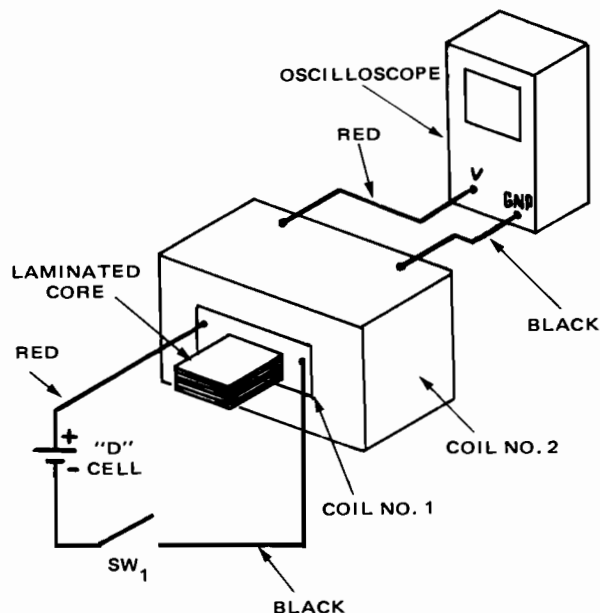

Fig. 9-3-2
6. Connect oscilloscope to output wires of coil No. 2 as indicated in Fig. 9-3-2. Remove VOM from coil No. 2.